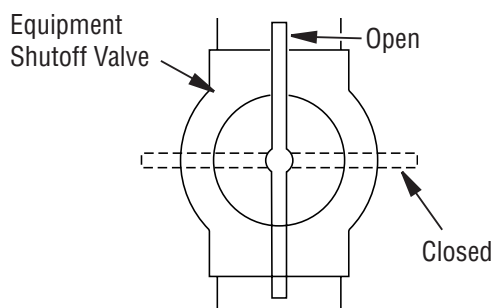

Figure 17 - Equipment Shutoff Valve
1. Close equipment shutoff valve (see Figure 17, page 17).
1. Open equipment shutoff valve (see Figure 17).